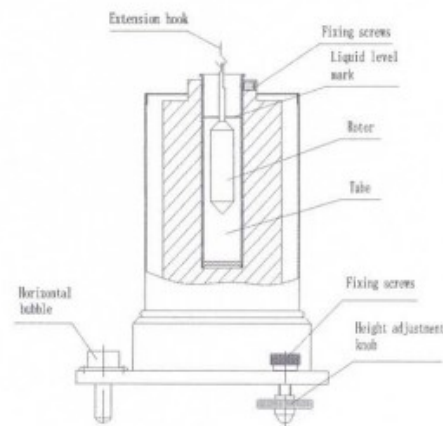

Fig. 16
- After the rotor is placed in the sample, check whether the liquid level mark (see Fig. 16 for details) is appropriate. The rotor can be adjusted to the appropriate height by lifting the knob. This Instruction Manual is applicable for all viscosity meters, please read as per the model or configuration of the instrument you purchased!
- As shown in Fig.14, the front view of the temperature controller "PV": The temperature inside the actual sample cylinder. "SV": Pre-set target temperature value. Fig.16